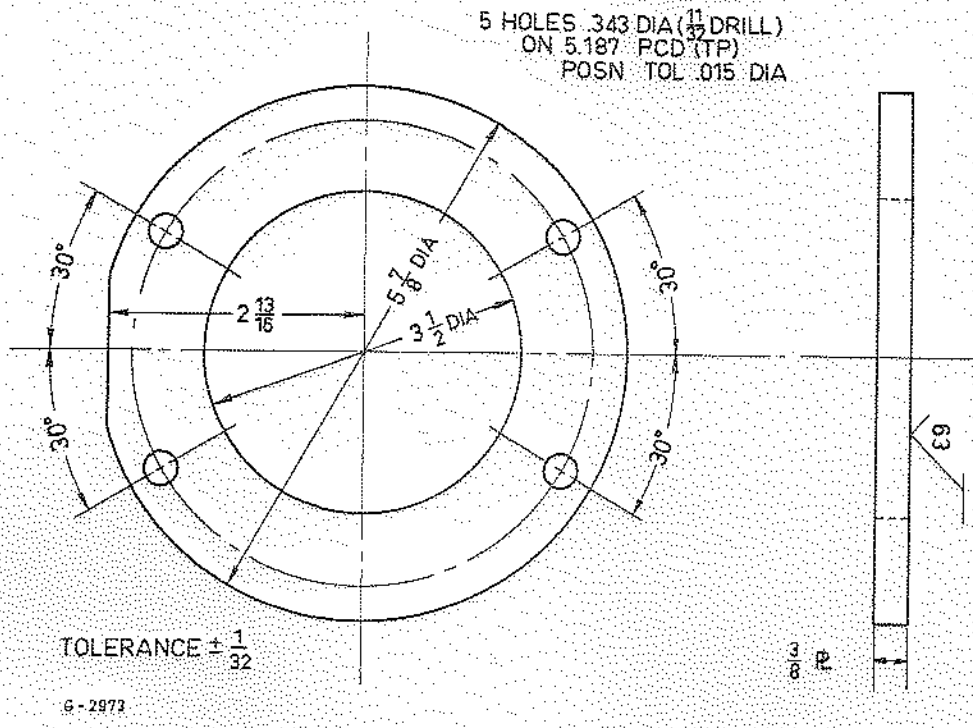
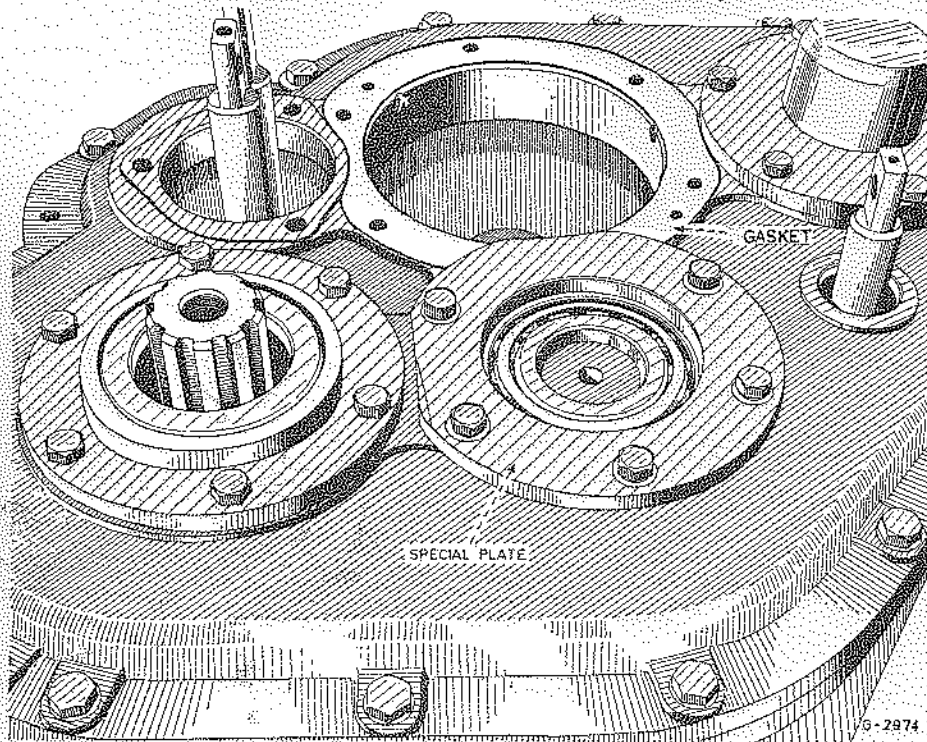

Fig. 4 - Special plate layshaft assembly
Fig. 5 - Special plate in place over layshaft
1. Bolt the P.T.O. and F.W.D. covers 56 and 11 on the main cover (62), using gaskets 41 and 42 respectively.
2. Bolt the special plate (Figs. 4 and 5) over the layshaft opening at the front of the main case (39). With gasket in position as shown in Fig. 5, page 5.